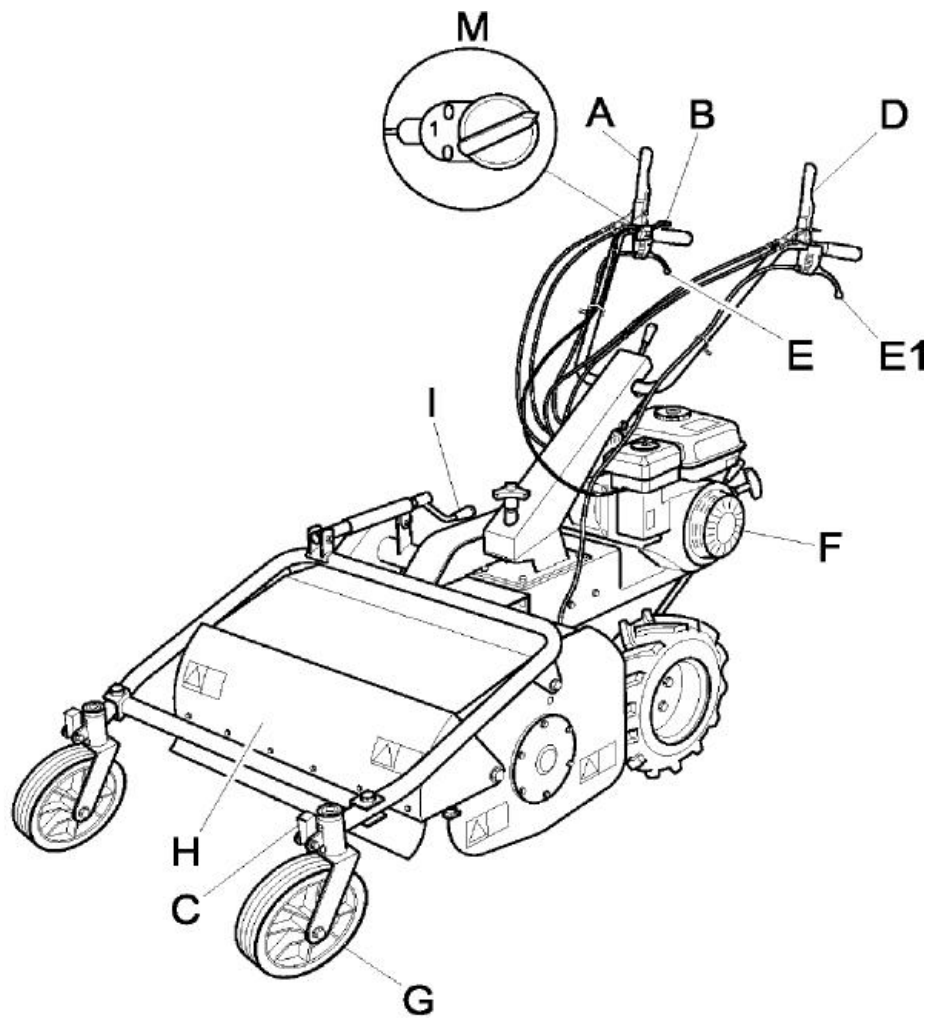
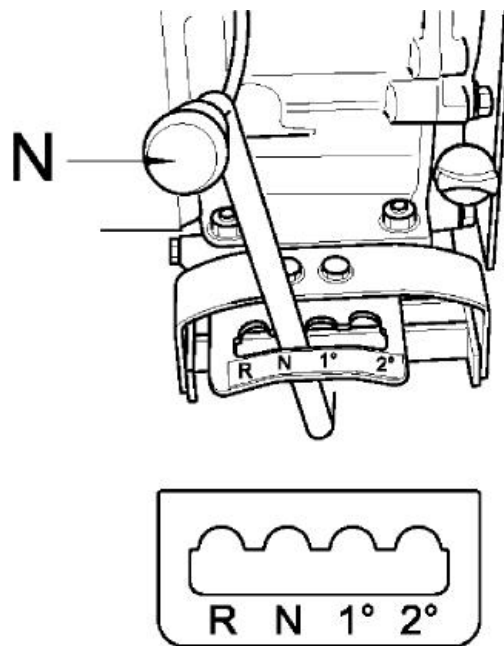

Figure 1
Figure 2
The front guard (Fig. 1 Ref. H) opens or closes automatically according to the amount of grass to be cut. Use of the machine with the guard left open is strictly prohibited. This may cause the outward projection of objects.
Be sure to set the lever position correctly (Fig. 2 Ref. N), making sure that the lever is correctly engaged; if it is not, engage the forward clutch momentarily (Fig. 1 Ref. A) so that the speed setting engages correctly.
- Before switching on the engine make sure that both engagement levers (forward clutch control lever - Fig. 1 Ref. A and flail clutch control lever - Fig. 1 Ref. D) are in the disengaged position (released) ; the service brake will be on automatically; then place the gear lever in neutral (see Fig. 2 Ref.N)
- The guard in front of the flails (Fig. 1 Ref. H) must always be closed while the machine is in use.